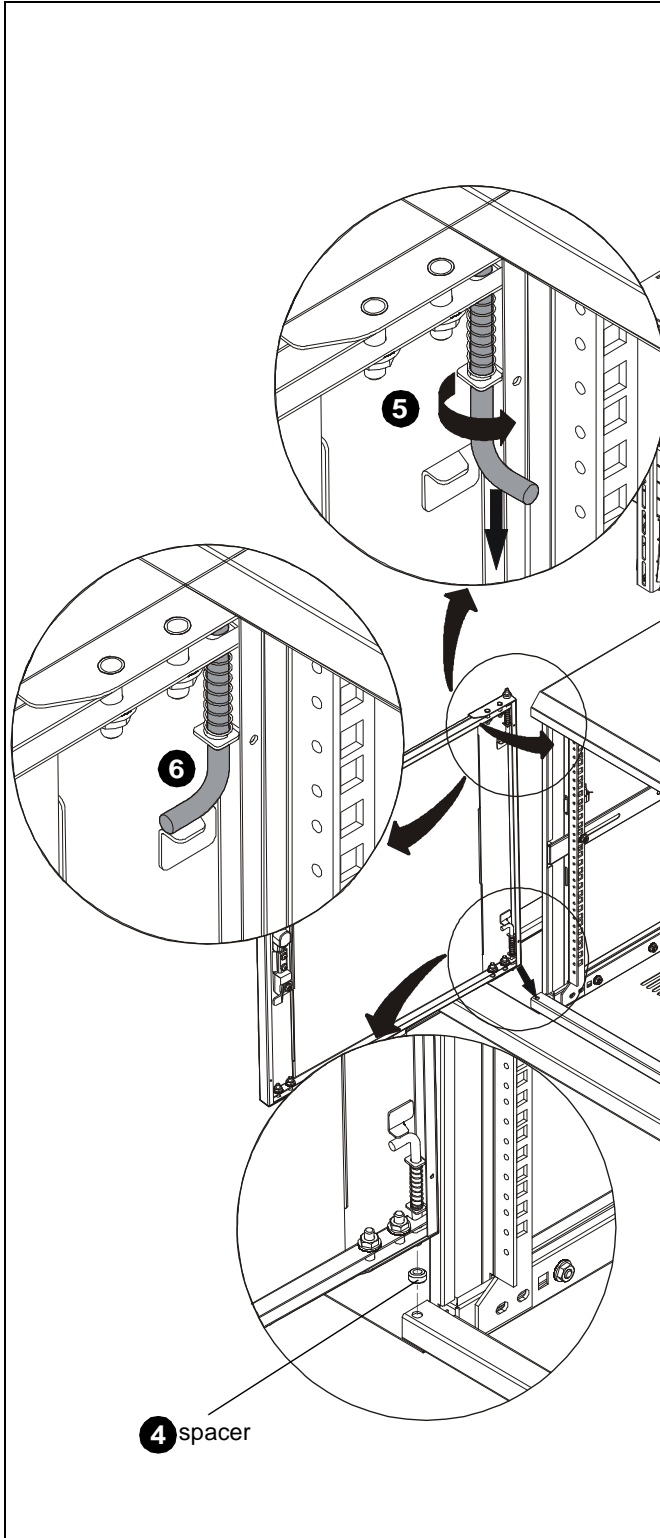

Figure 28
4. Fit spacer onto bottom pin and fit bottom pin into bottom mounting hole in rack. (See Figure 28)
5. Turn upper pin to release from locking tab and pull down. Fit pin into upper mounting hole in rack. (See Figure 28)
6. Release pin and turn pin to secure it under locking tab. (See Figure 28)